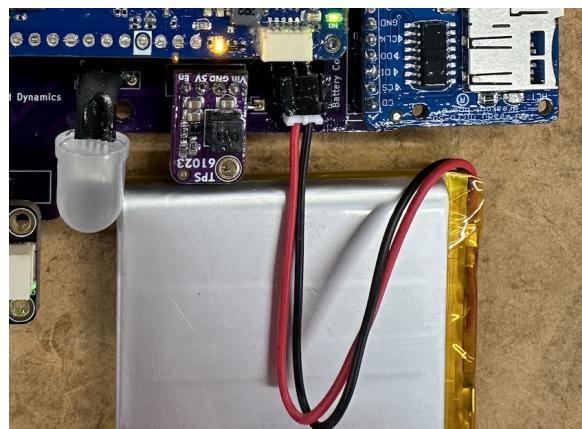

Figure A9: 2500 mAh LiPo battery installed
- Connect the 2500 mAh LiPo battery to the onboard connector. Ensure that the positive and ground leads on the battery are oriented, as shown in Figure A9, with the red on the left. If battery leads are reversed, remove them from the white male connector and swap them to achieve the proper orientation.